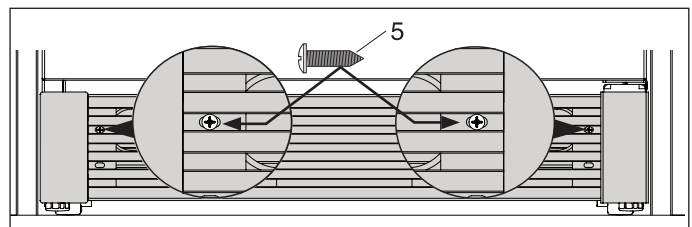

Figure 19
**(Single Unit)** Attach the kick plate to the cabinet with two (2) screws. (See Figure 19).